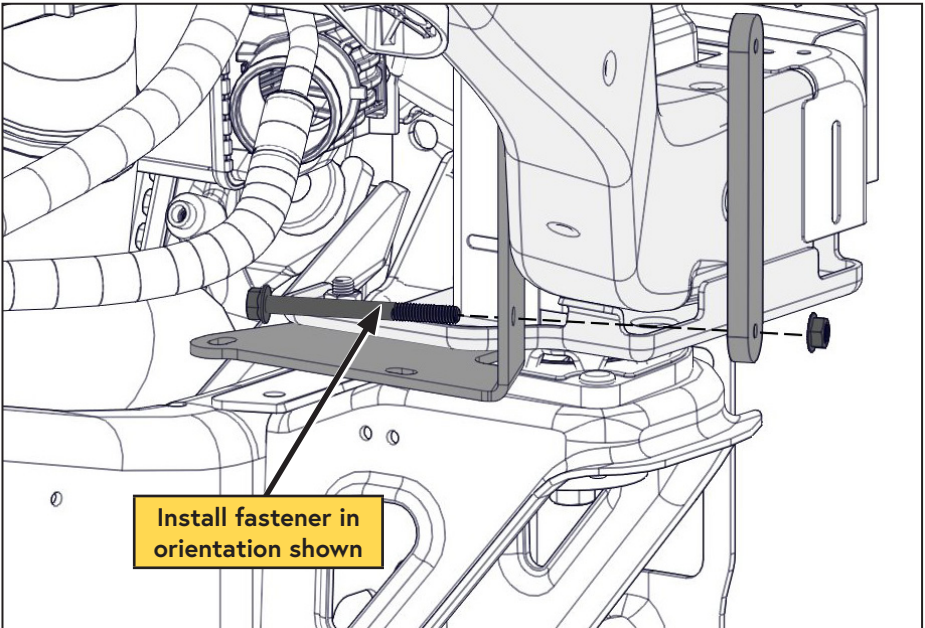

Figure 40 — Install backing strap
- ☐ Install the bottom fastener onto the backing strap, leaving the nut finger tight (Figure 40).